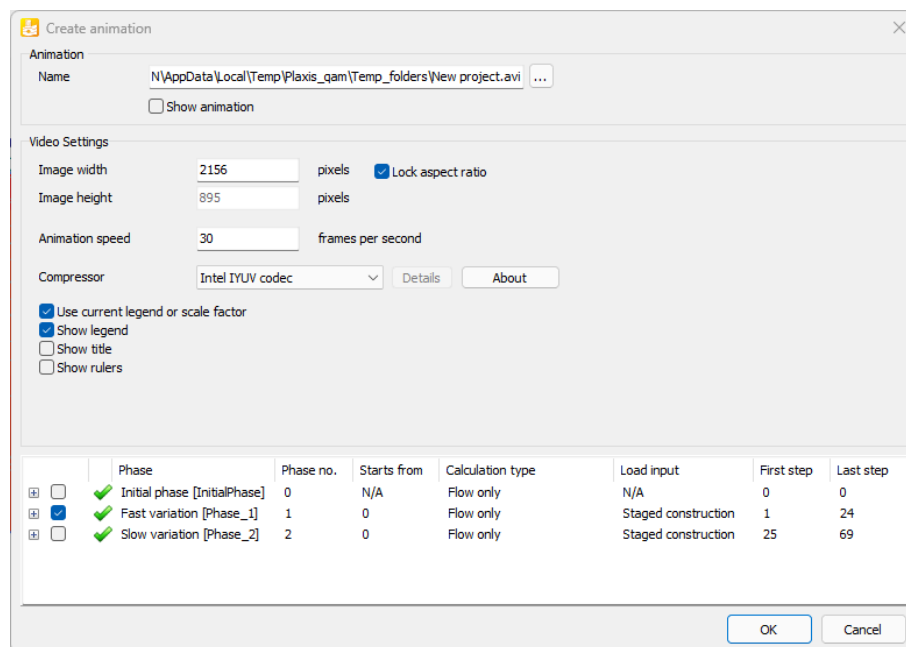

Figure 12–9: Create animation window
4. Select Phase 1. The variation of the results in the cross section is displayed in a new window as shown in Figure 12–10 \(p. 203\).
5. Do the same for Phase 2. This may take about 30 seconds which is shown in Figure 12–11 \(p. 203\).